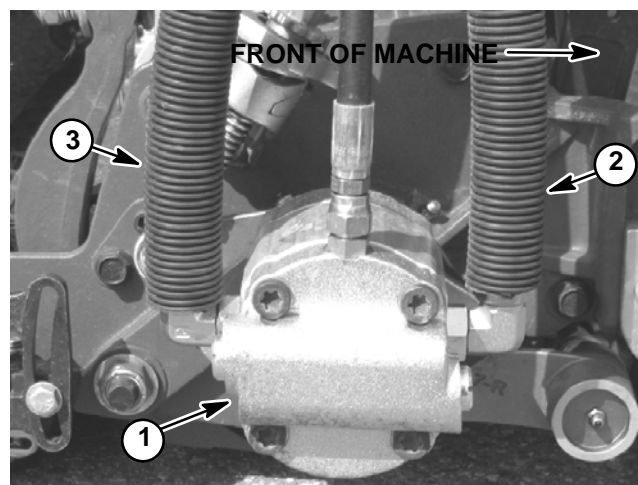

Figure 44
5. On reel motor to be tested, thoroughly clean junction of motor inlet and outlet fittings and hydraulic hoses. Loosen and remove both hoses from fittings. Install a tee fitting with a 5000 PSI (350 bar) pressure gauge between fitting and hose for both motor inlet and outlet (Fig. 44).